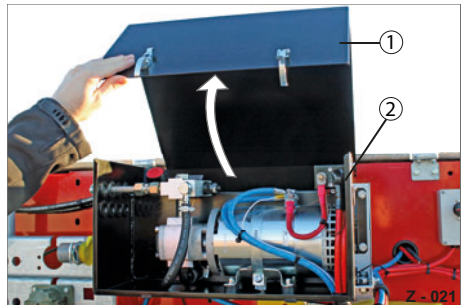

Abb. 4 Removing the cover
- ▶ Swing the cover (Abb. 4/1) up.
- ▶ Lift the cover off the housing (Abb. 4/2).